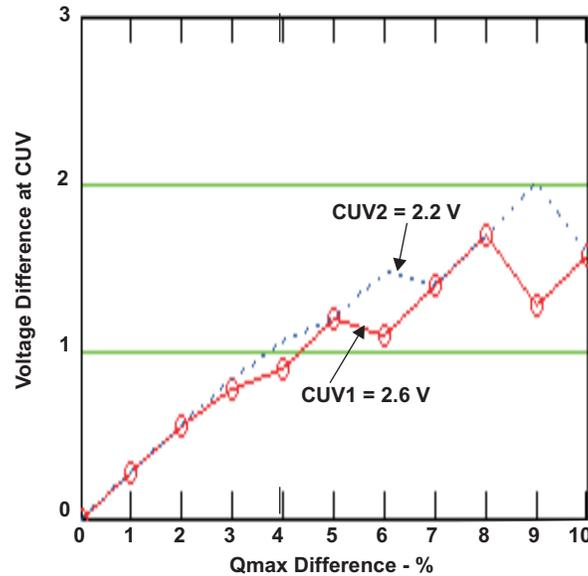

Figure 3. The Relationship Between the Cell Voltage Difference at Cell Under Voltage and Q_{max} Difference
Figure 3 shows the relationship between the cell voltage difference at cell undervoltage and the total-capacity Q_{max} difference. Here are calculations of delta Voltage at CUV level:
2. Increase the CIM voltage threshold to fail cells at higher Q_{max} differences. For example, to fail it at 7% according to Figure 3 (with CUV 2.6 V), you would need to set threshold to 1.5 V.